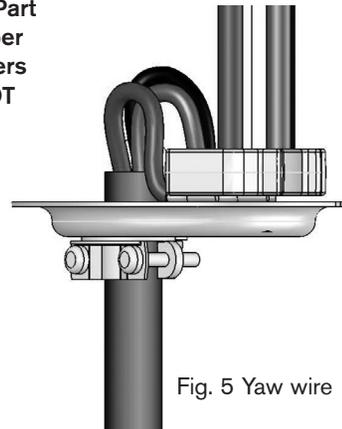

Fig. 5 Yaw wire
- With power turned off, position the wires as depicted in accompanying Fig. 5 and secure strain relief cover using four M5-0.8 x 12 socket head screws. Tighten strain relief clamp to secure cable.